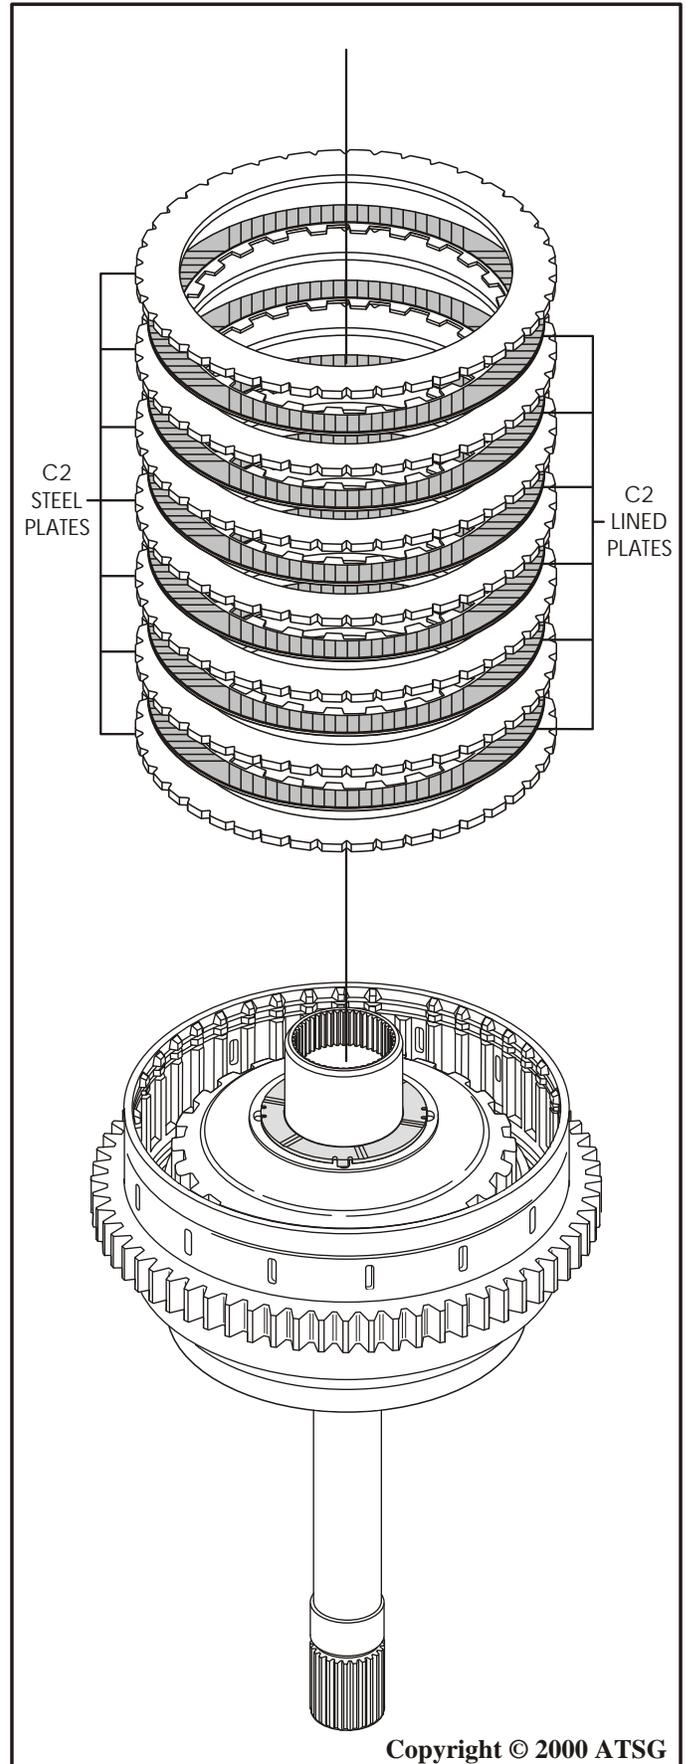

Figure 114
38. Install the C2 clutch pack into the housing, as shown in Figure 114, beginning with a steel plate and alternating with lined plates until you have installed 7 steel plates and 6 lined plates.
Note: *In the C2 clutch pack you begin with a steel plate and end with a steel plate as shown in Figure 114.*